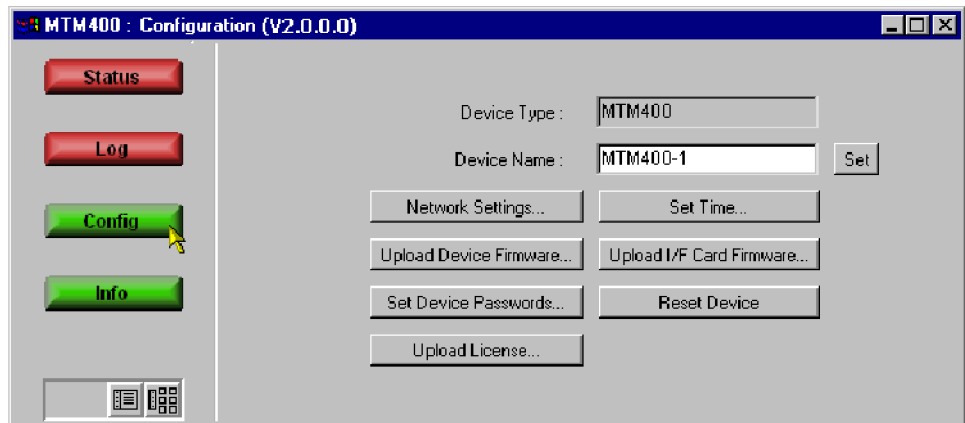

Figure 24: Device view Configuration screen (RUI v2.6.1 and below)
10. In the Device view, click **Config** to open the Configuration screen. (See Figure 24.)